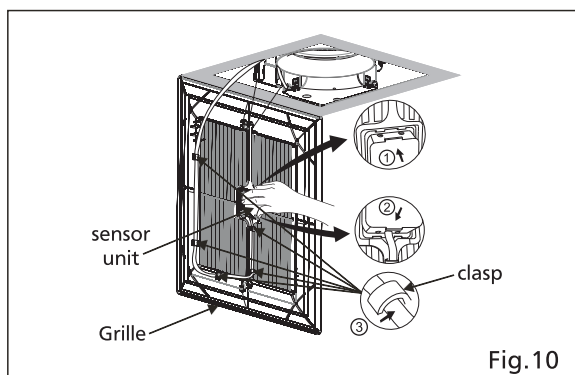

Fig.10
12. For FV-08-11VFM5: Insert the sensor unit into the slot of the grille; fix the lead wire of sensor unit into the clasps (5 positions). (Fig.10)